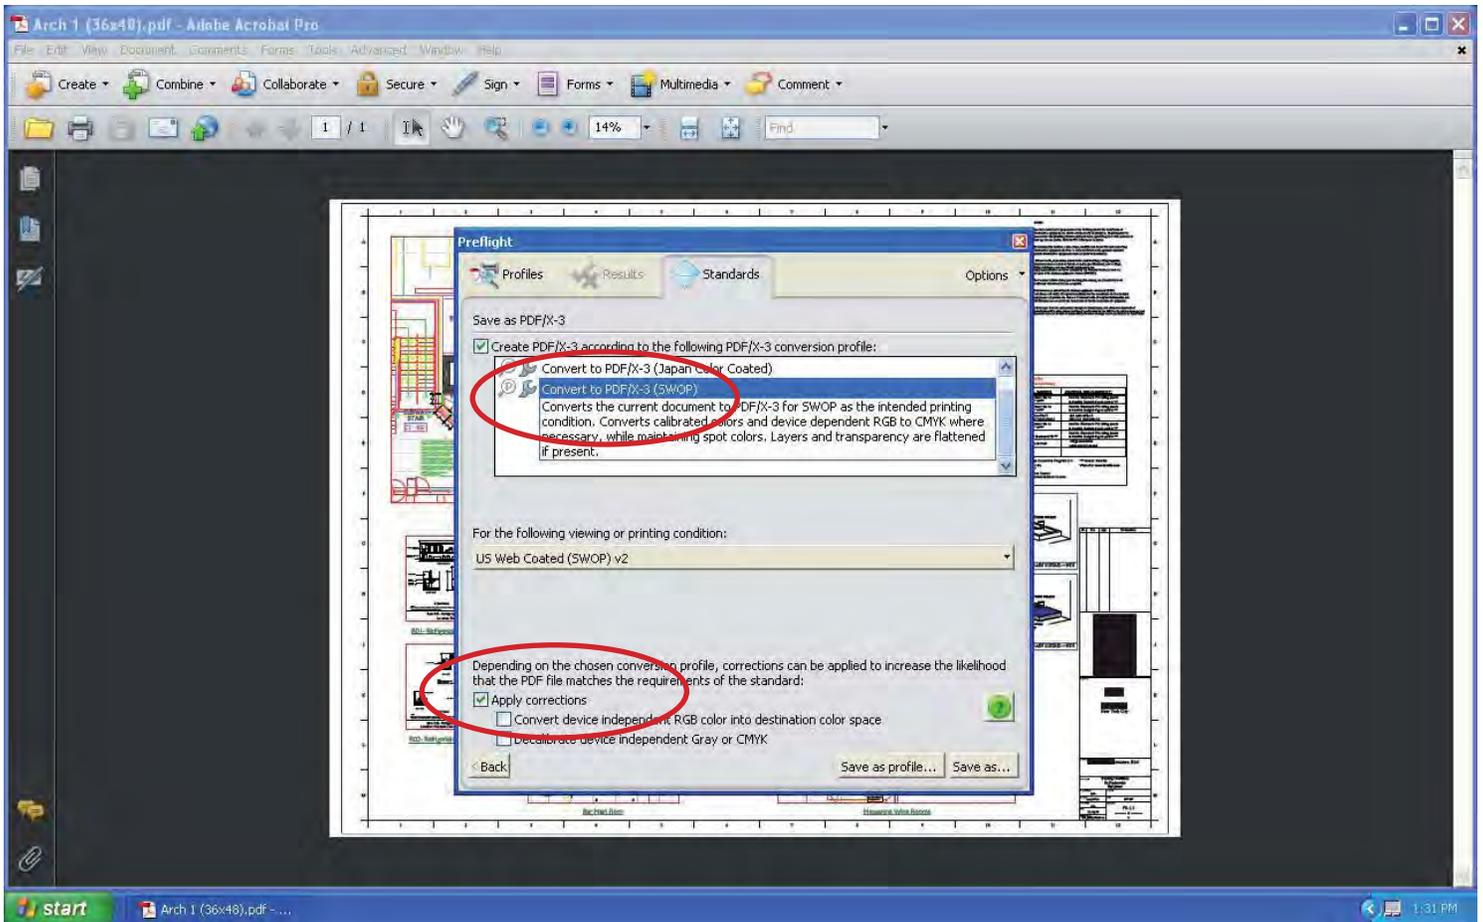

Fig. 5
5. Select Create PDF/X-3 (SWOP) as the conversion profile. (Fig. 5).